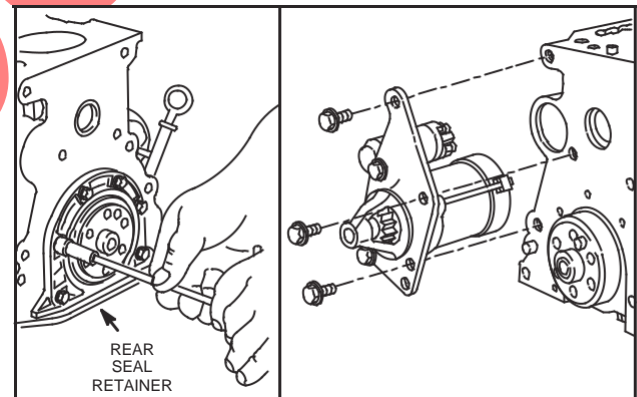

Fig. 8 – Installing Rear Seal Retainer
2. Install gasket and rear seal retainer, Fig. 8.